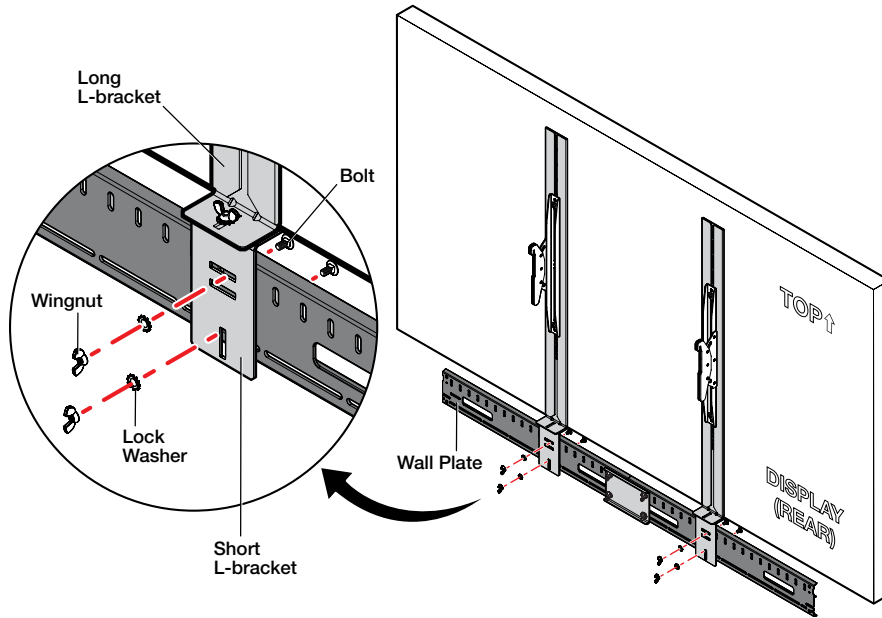

Figure 43. Installing the SB 33 Speaker Wall Plate
7. Install the SB 33 speaker wall plate to the short L-bracket using two bolts, two lock washers, and two wingnuts (see figure 43). Repeat this procedure for the other short L-bracket on the other side.